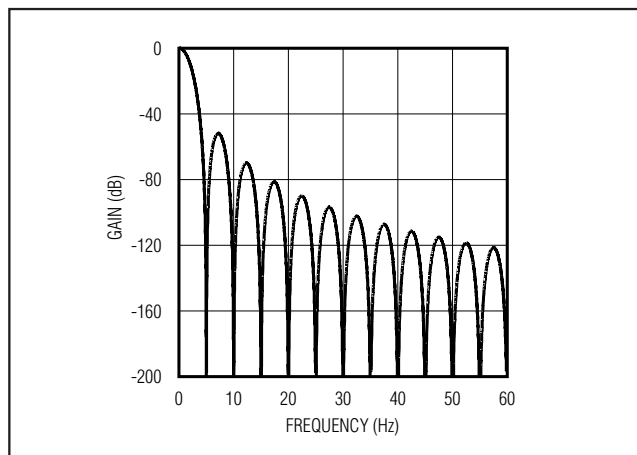

Figure 2. Frequency Response of the SINC⁴ Filter (Notch at 60Hz)
- Note 7:** Measured at DC by changing the power-supply voltage from 2.7V to 5.25V and measuring the effect on the conversion error with external reference. PSRR at 50Hz and 60Hz exceeds 120dB with filter notches at 50Hz and 60Hz (Figure 2).
Figure 2 shows the filter frequency response. The SINC⁴ characteristic -3dB cutoff frequency is 0.228 times the first-notch frequency (5Hz).